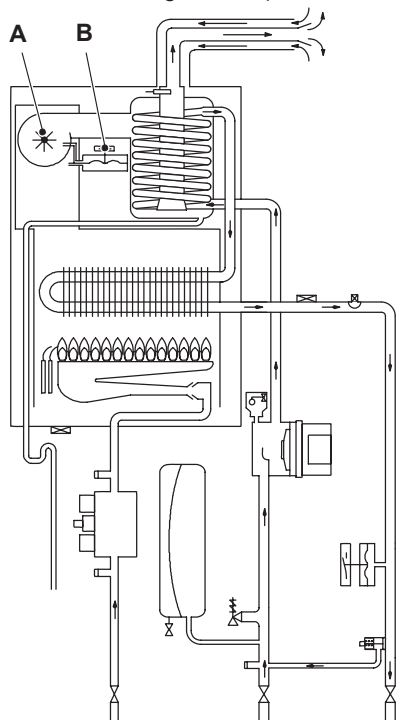
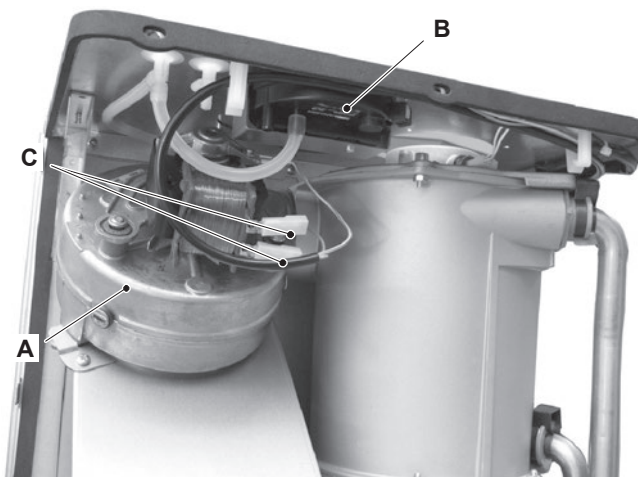

Figure 14.1
Figure 14.2
The function of the Fan A (Figure 14.1 and Figure 14.2) is to force the products of combustion through the condensing heat exchanger to the outside air via the flue system.
Its correct functioning is controlled by means of an Air pressure sensor B (Figure 14.1 and Figure 14.2).
- 2 Disconnect the connectors C (Figure 14.2) and measure the electrical resistance of the motor that has to be about: